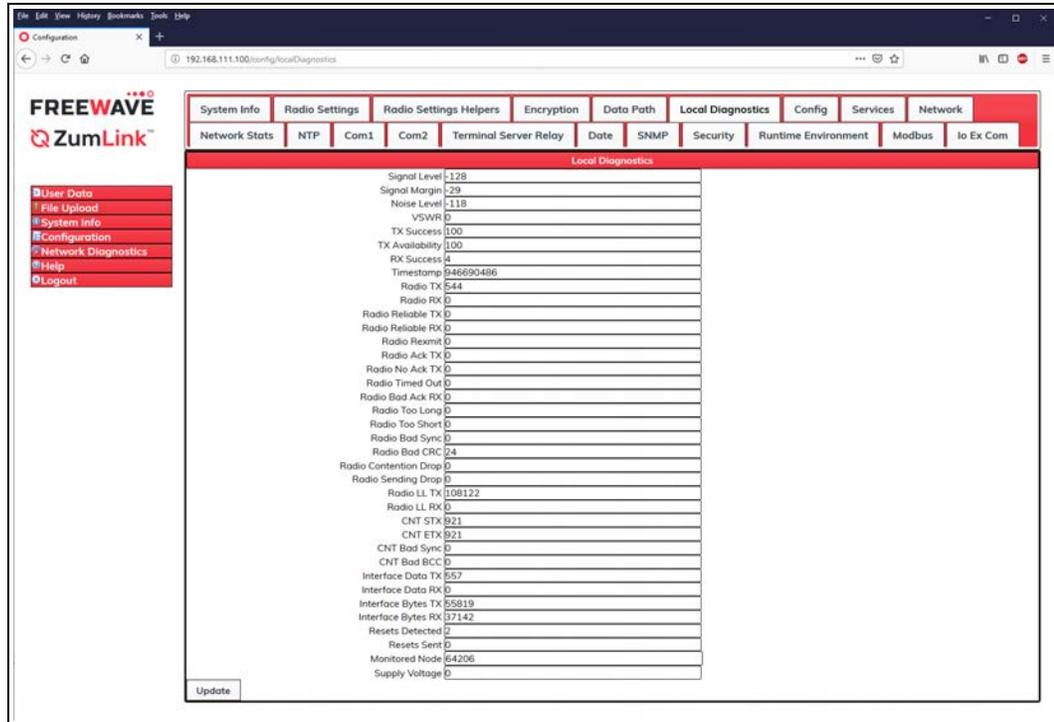

Figure 270: Local Diagnostics window
6. Click the **Local Diagnostics** tab to access the **Local Diagnostics** parameters. Figure 270